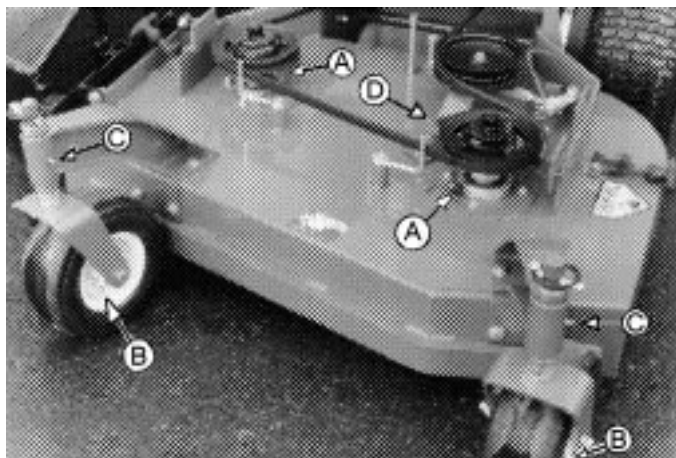

Figure 3
D. LUBRICATION CHART: See Figures 3, 4 & 5 for Item Location